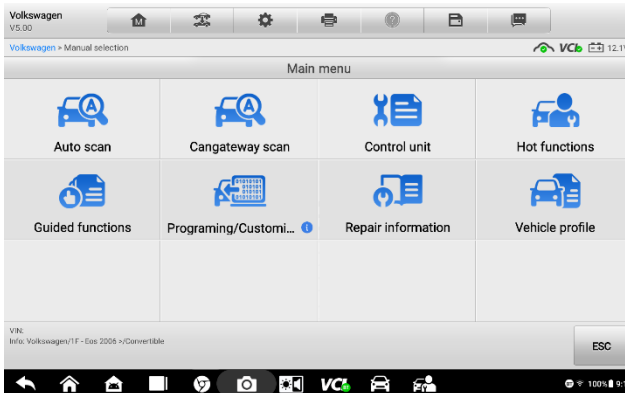

Figure 4-2 Sample Vehicle Diagnostics Screen
5. Tap **OK**. The vehicle will be identified in a few seconds, and once the vehicle information is confirmed, the system will guide you to the Vehicle Diagnostics screen directly. (see Figure 4-2 Sample Vehicle Diagnostics Screen)